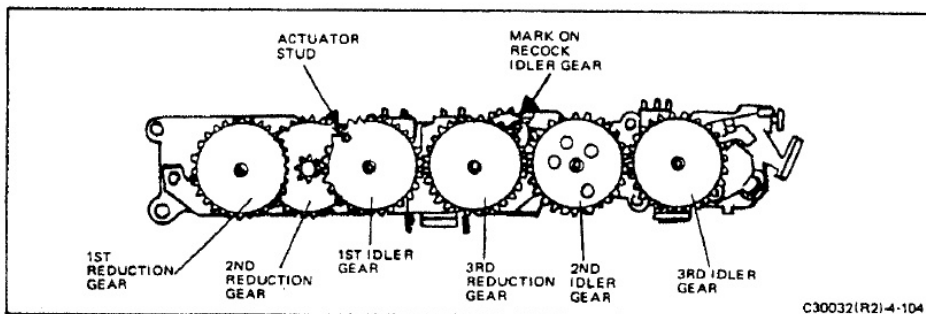

FIGURE 4-104 RELATIONSHIP OF GEARS
- Install the 1st idler gear in such a position that the stud on the gear is at the point where the gear overlaps the 2nd reduction gear (see Figure 4-104). (The first idler gear may be either green or black. Newer gears are black and are fully interchangeable with the green gears.)
- Install the 1st idler gear so the stud on the gear is at the exact point where the gear overlaps the 2nd reduction gear (see Figure 4-104). (The 1st idler gear may be either green or black. Newer gears are black and are fully interchangeable with the green gears.)